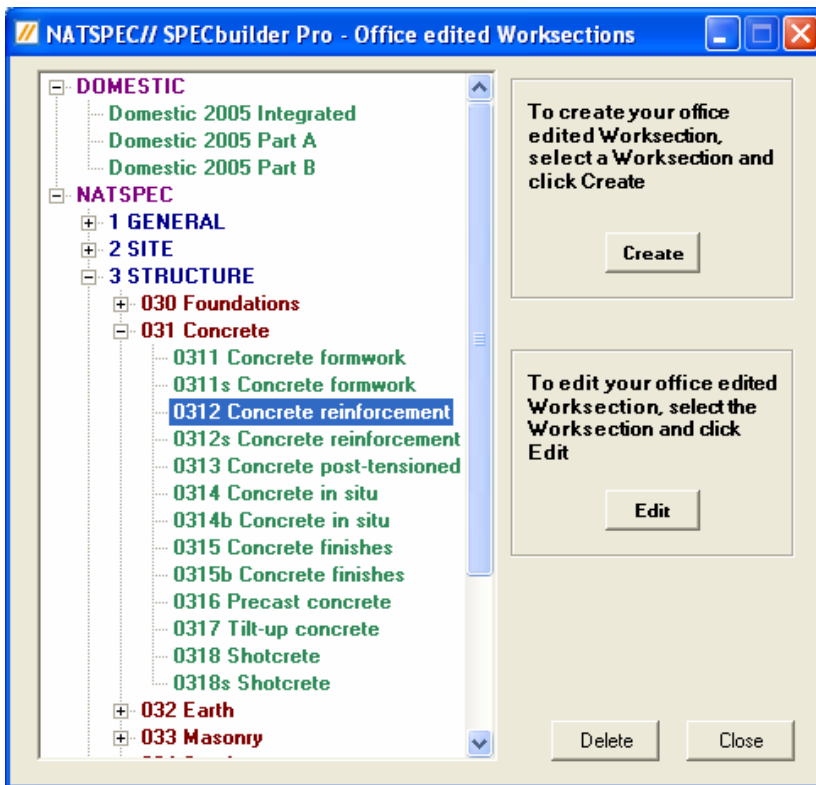
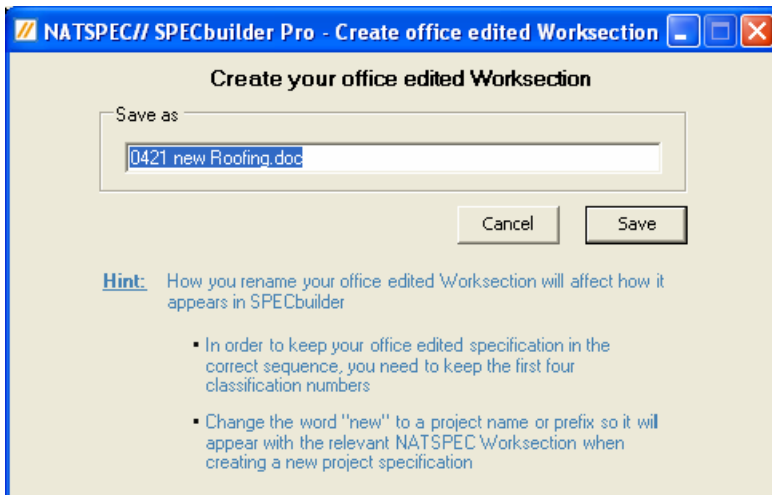

Figure 7 – Office edited Worksections
Figure 8 – Create office edited Worksection
**Office edited Worksection** dialog then appears (Figure 7). Choose the worksection you wish to edit and give it a new name (don't forget to read the hint on the **Create Office edited Worksection** dialog box - Figure 8). Once you have renamed the file it will open in Microsoft Word for you to edit. You can come back to this screen whenever you want to create more office edited worksections or to edit ones you have already created.